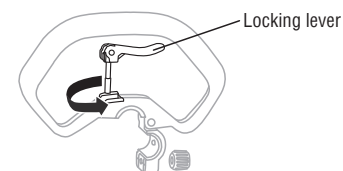

Fig. 2A
1. Unscrew the locking lever from the front-assist handle. (Fig.2A)